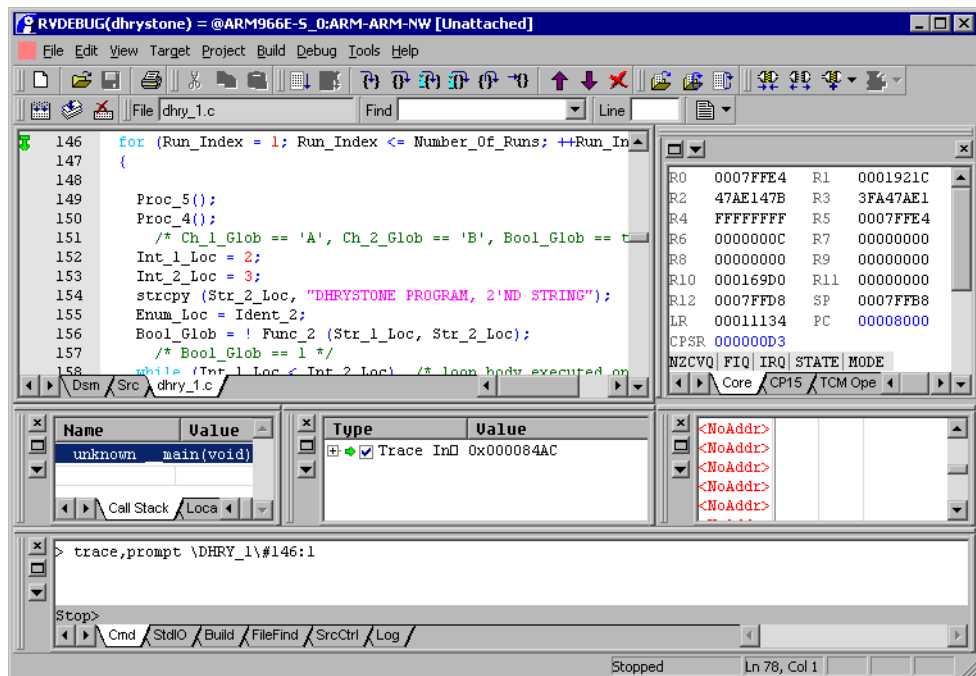

Figure 2-47 Setting a trace start point
- c. Select **Trace Start Point** from the List Selection dialog box. An arrow  is placed next to line 146 to indicate the start point you have set, and details of this control point are displayed in the Break/Tracepoints pane of the Code window, as shown in Figure 2-47.